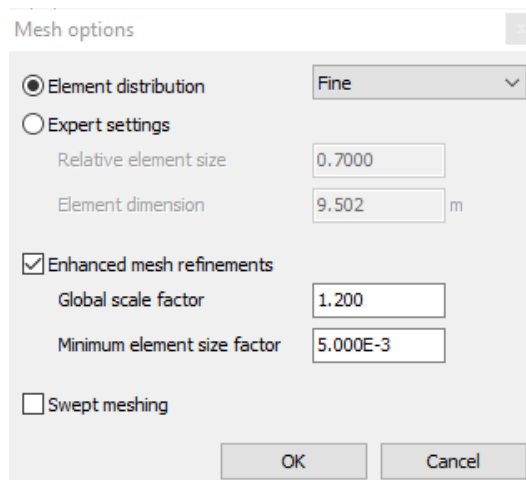

Figure 114: Modification of the Global coarseness
2. Select the **Fine** option from the **Element distribution** drop-down (See Figure 114 (on page 140)):